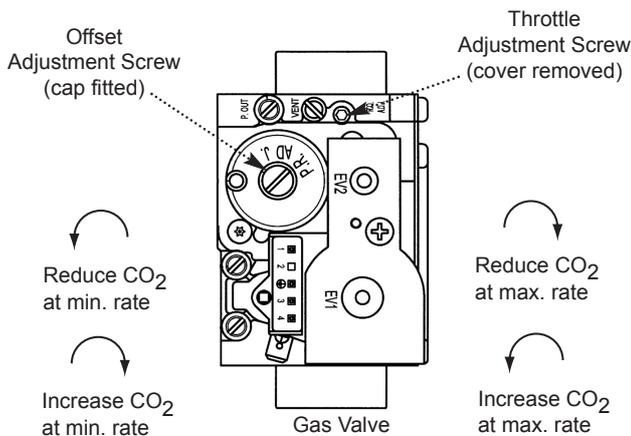

Fig. 55
6. Check the CO₂ is 8.9% ±0.1%. If the CO₂ is incorrect alter the Offset Adjustment Screw (Fig. 55). Turn the screw clockwise to increase the CO₂ or anticlockwise to decrease (4mm hexagon key).